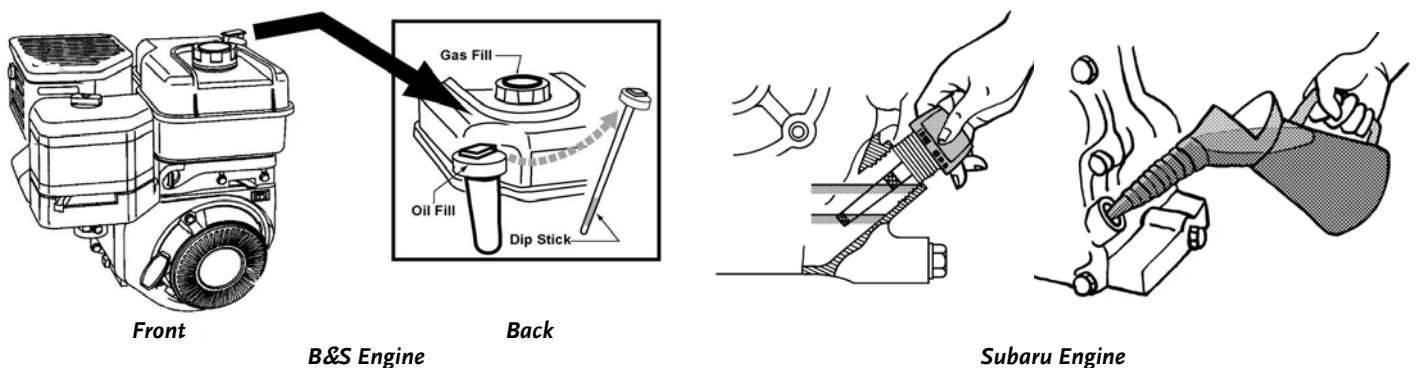

Figure 26
1. Place the machine on a level surface and initially add 16 oz. (B&S) or 32 oz. (Subaru) of the oil recommended by the Engine Manufacturer, and wait one minute for the oil to settle (**Figure 26**).
2. Check the dipstick and continue adding a few ounces of oil at a time, rechecking the Dipstick until the oil reaches the fill mark. Be careful not to overfill (**Figure 26**).
2. Check the Engine oil level every time you use the machine (**Figure 26**, page 26).